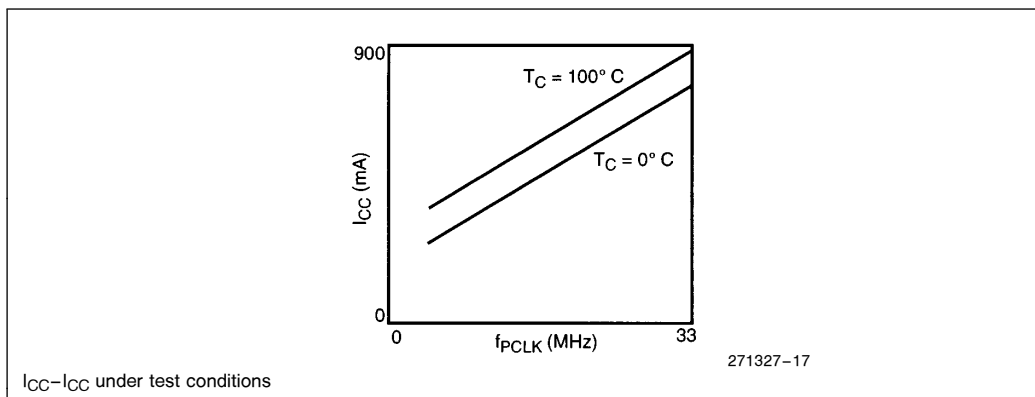

Figure 17.  $I_{CC}$  vs Frequency and Temperature
- See Figure 17 for capacitive derating information for rise and fall times.